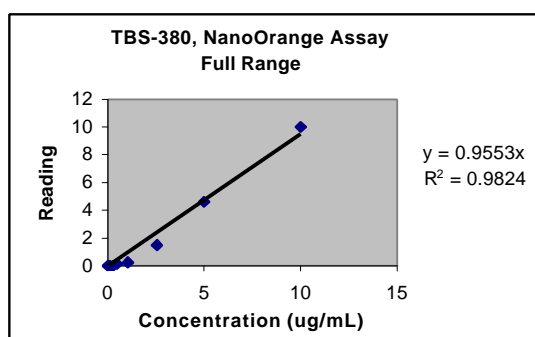

Figure 1.
To perform a protein assay, the protein sample is simply added to the NanoOrange™ reagent in a specialized diluent and this mixture is heated at 95° C for ten minutes. Fluorescence can be measured as soon as the mixture has cooled to room temperature. Alternatively, samples can be read up to six hours after preparation with no loss in sensitivity, as long as samples are protected from light. The NanoOrange™ reagent is virtually non-fluorescent in aqueous solution, becoming strongly fluorescent at about 570–590 nm upon interaction with proteins, when excited at about 470–490 nm. Detection of the fluorescence using the TBS-380 fluorometer allows protein concentrations from 100 ng/mL to 10 µg/mL to be measured relative to a standard curve (Figures 1 and 2).
Figure 1 and 2. Full-range calibration plot and close up of low range plot for bovine serum albumin (BSA) using the TBS-380 Mini-Fluorometer and the NanoOrange™ Protein Quantitation Kit.
3.2.5 Measure the fluorescence of the remaining standards. Use the data from the standards to generate a standard curve of fluorescence versus protein concentration. (Figures 1 and 2).